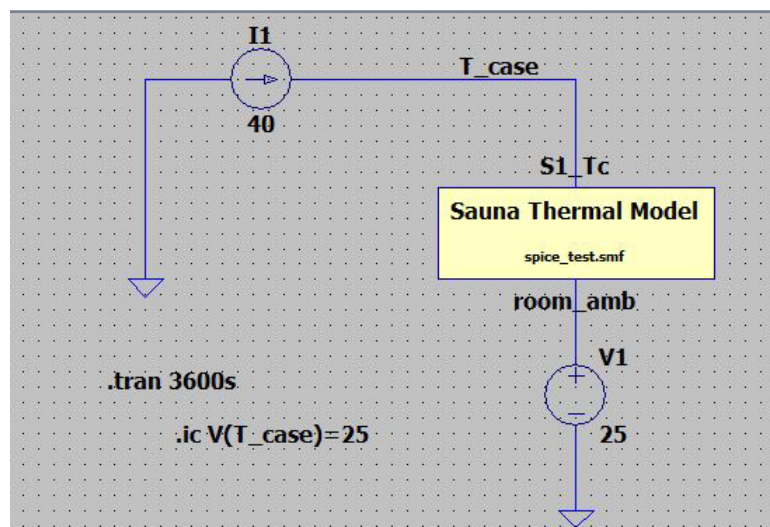

Figure 6: Model setup for transient analysis
Now you're ready to simulate. You just need to click the run icon shown in Figure 6.
Follow these steps to run a transient analysis of one hour (see Figure 6):
3. There's one last step. You need to tell LTspice to start the heat sink at 25C. You will do this with an initial condition of 25 for V(T_case). As you have done before, define the “.ic V(T_case)=25” dot command shown in Figure 6.